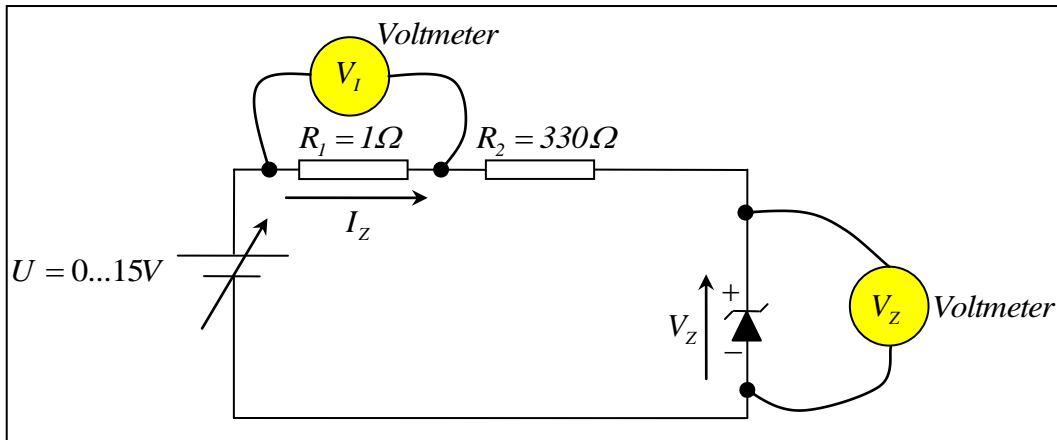

Figure 2.
- Assemble the circuit as shown in Figure 2 and carry out the measurements for the voltages given in Table 1.